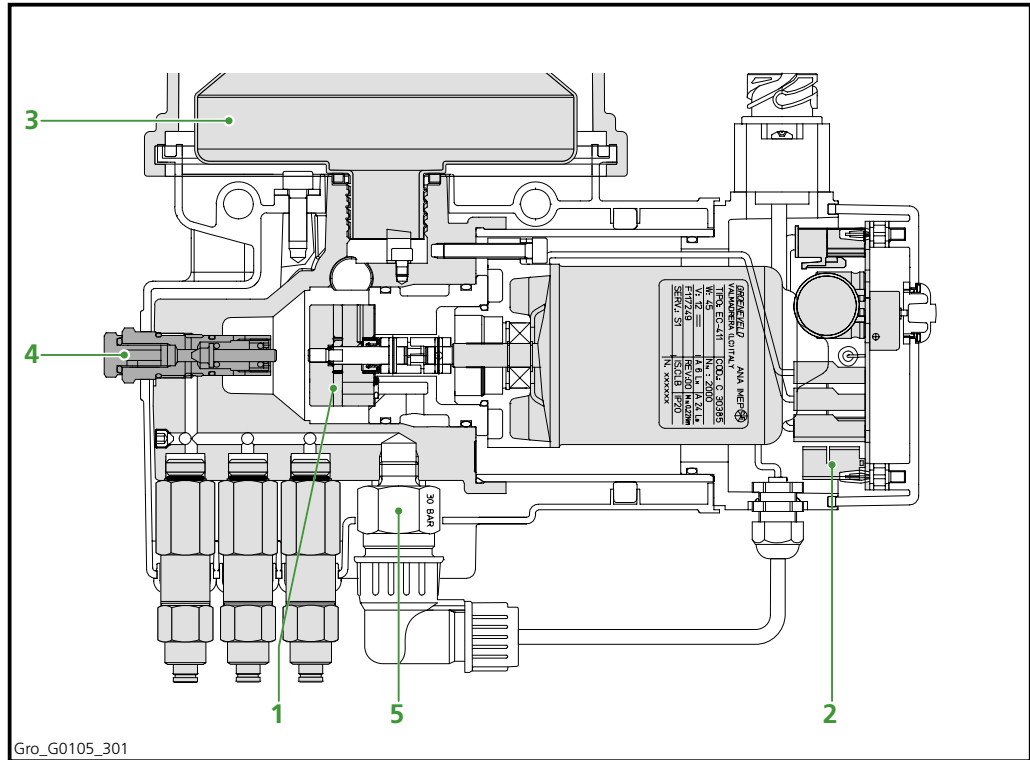

Figure 3.2 Gear pump
The gear pump (1) is switched on by the electronic time switch (2) (Figure 3.2). The grease is now pumped from the reservoir (3) to the metering units. The pump continues to run during the total cycle time. This cycle or pulse time is 2 minutes. During the cycle, the pump builds the grease pressure up further all the time. At a pressure of 55 bar, the pressure regulating valve (4) opens, and the grease returns to the reservoir. The grease pressure is therefore limited to 55 bar. After the greasing cycle of 2 minutes, the pump's direction of rotation is reversed for 90 seconds, to release the pressure in the pump and metering units.